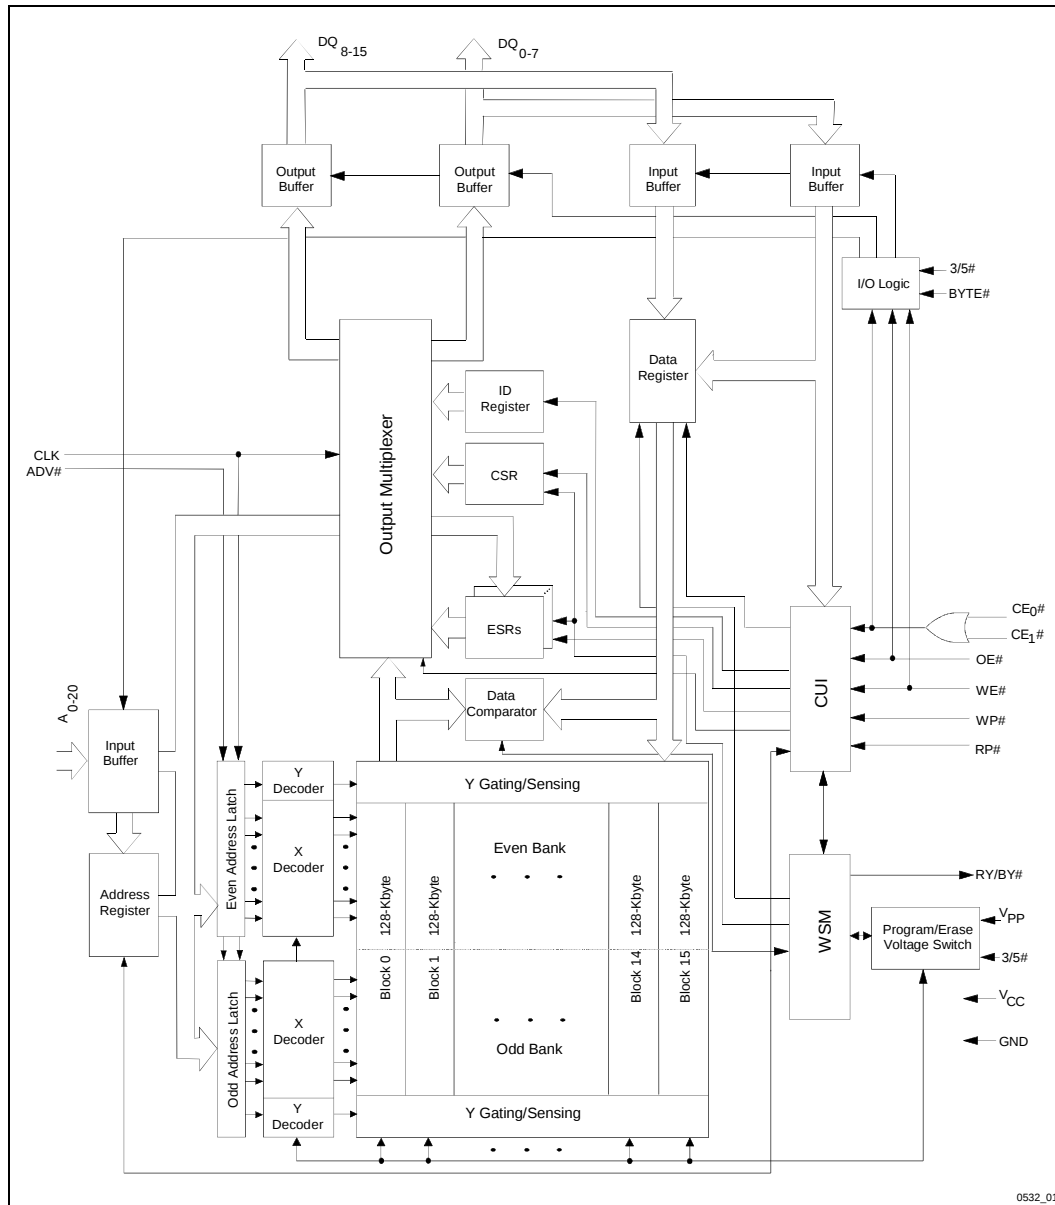

Figure 1. 28F016XS Block Diagram
-003	Added 3/5# pin to Pinout Configuration (Figure 2), Product Overview (Section 1.1) and Lead Descriptions (Section 2.1) Modified Block Diagram (Figure 1): Removed Address Counter; Added 3/5# pin Added 3/5# pin to Test Conditions of I_{CCS} Specifications Added 3/5# pin (Y) to Timing Nomenclature (Section 5.6) Removed Note 7 of Section 5.7 Modified Device Configuration Code: Incorporated RY/BY# Configuration (Level Mode support ONLY) Modified Power-Up and Reset Timings (Section 5.10) to include 3/5# pin: Removed t_{5VPH} and t_{3VPH} specifications; Added t_{PLYL}, t_{PLYH}, t_{YLPH}, and t_{YHPH} specifications Added SSOP pinout (Figure 2) and Mechanical Specifications Corrected TSOP Mechanical Specification A1 from 0.50 mm to 0.050 mm (Section 6.0) Minor cosmetic changes throughout document.
The BYTE# pin allows either x8 or x16 read/programs to the 28F016XS. BYTE# at logic low selects 8-bit mode with address A₀ selecting between low byte and high byte. On the other hand, BYTE# at logic high enables 16-bit operation with address A₁ becoming the lowest order address and address A₀ is not used (don't care). A device block diagram is shown in Figure 1.